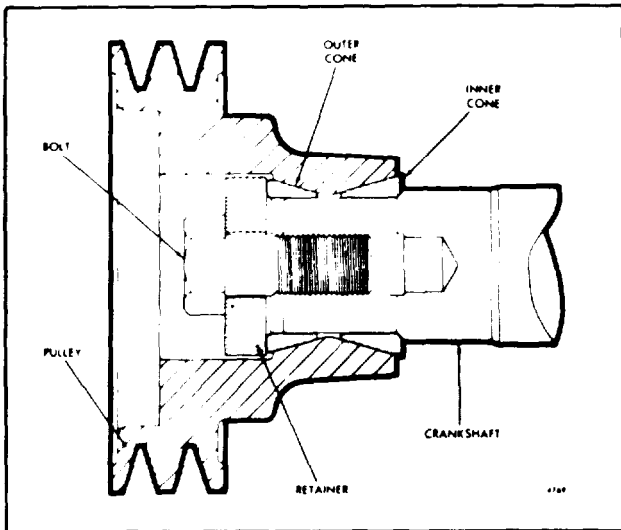

Fig. 3 Cone Mounted Pulley
2. Slide the inner cone (Fig. 3), if used, on the crankshaft.
7. Slide the outer cone (Fig. 3), if used, on the crankshaft.